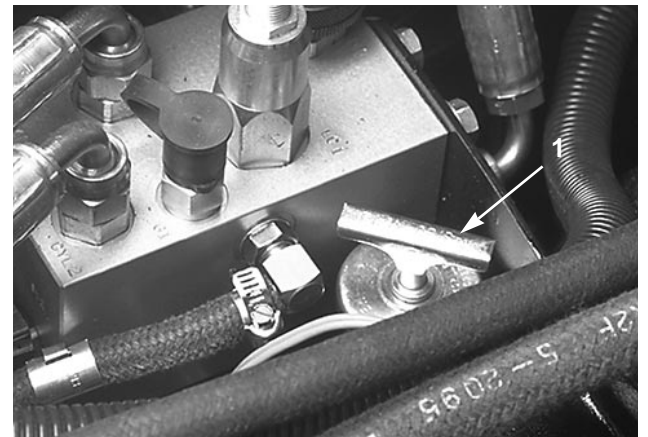

Figure 5
CHECK THE HYDRAULIC FLUID (Fig. 5)
2. Unscrew the dipstick cap (Fig. 5) from the filler neck and wipe it with a clean cloth. Screw the dipstick cap
finger-tight onto the filler neck. Unscrew the the dipstick and check the level of oil. If the level is not up to the FULL mark on the dipstick (Fig. 5), add enough oil to raise the level to the mark. DO NOT OVERFILL.